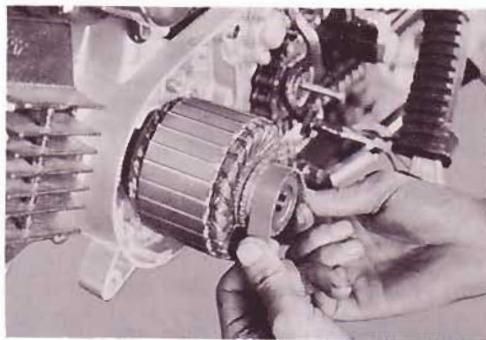

Fig. VII-5-5
- 1) Thoroughly clean the commutator of oil and dirt. If the commutator is rough or dulled with brush dust, polish it with fine grain sandpaper (#400-600) as shown in Fig. VII-5-5, by rotating the armature. Partial polishing will only deform the commutator and shorten brush life.